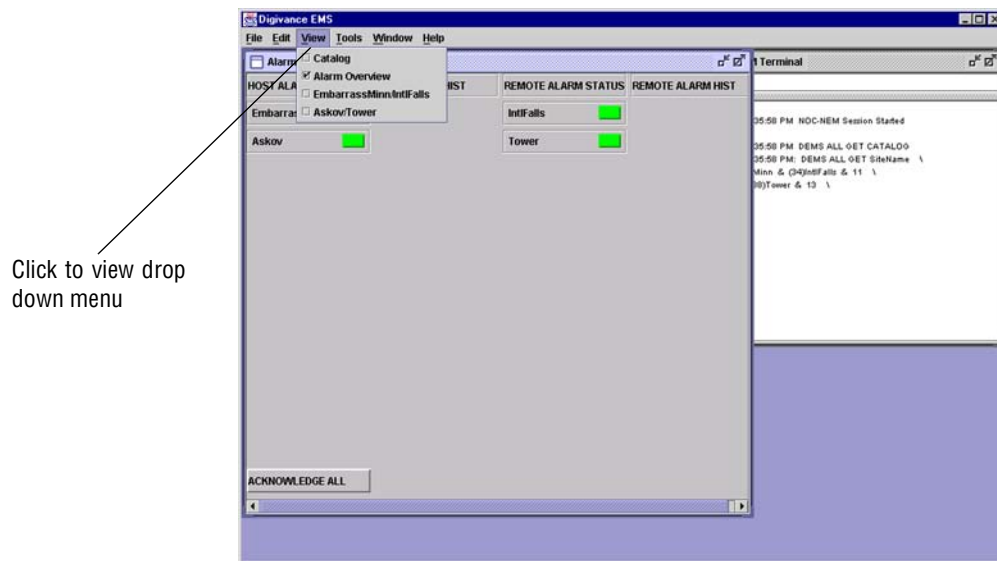

Figure 3-1. Digivance Element Management System Main Window
9. Start up the EMS software program. The EMS main window will open as shown in Figure 3-1. The EMS software should be installed on a PC-type computer and the PC's COMM port should be configured to interface with the HU. For information about installing the EMS software and configuring the PC's COMM port, refer to the Digivance Element Management System User Manual (see Related Publications section).